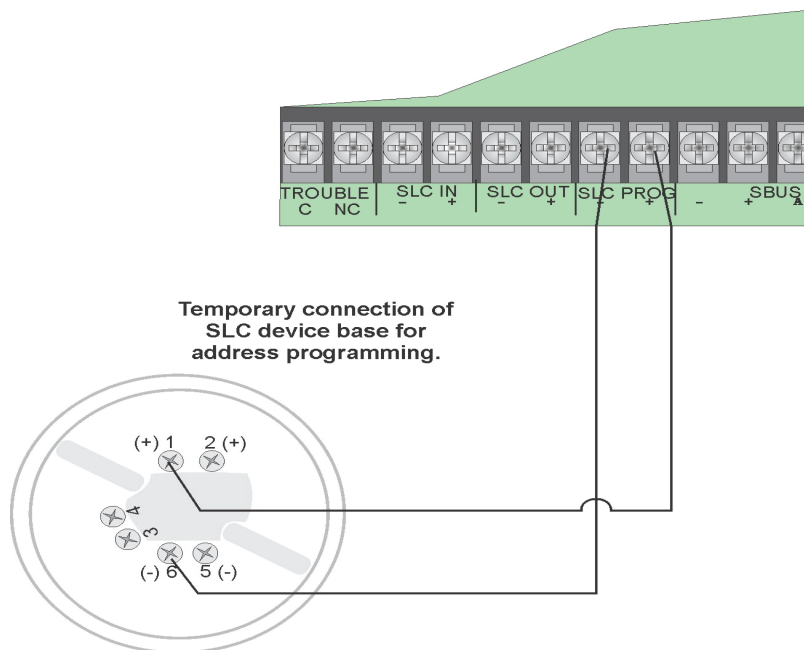

Figure 7.7 Temporary Connection of Detector Base to Panel for Addressing
1. Connect a detector base temporarily to the programming terminals as shown in Figure 7.7. (You can use the same base for each detector).